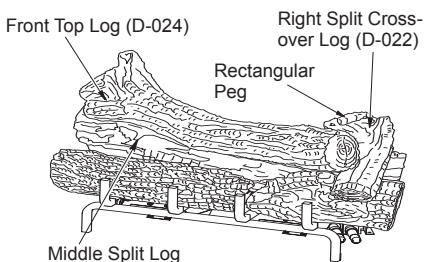

Figure 34 - Installing Front Top Log
- Find the front top log (D-024). See Figure 34. The left end of this log has a square hole that fits over a square peg that is on the top of the middle split log. The right end of this log rests behind the knot on the top of the front right log.